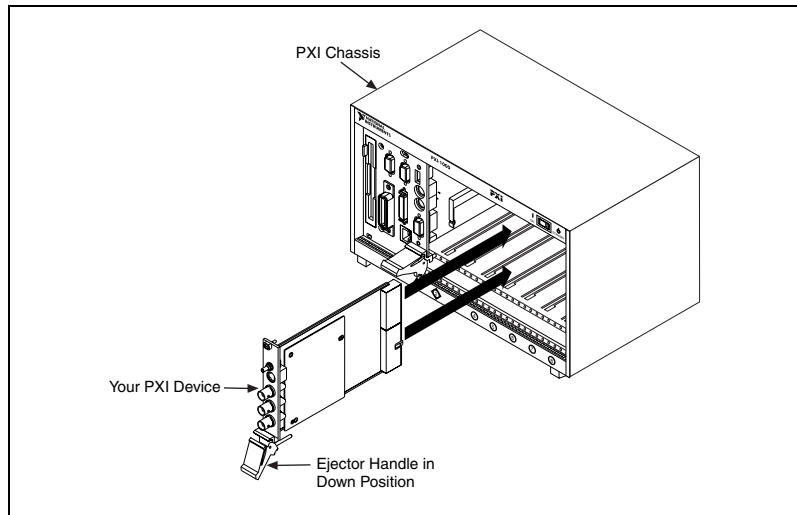

Figure 1. PXI Installation
4. Install your digitizer. Figure 1 illustrates the hardware installation.